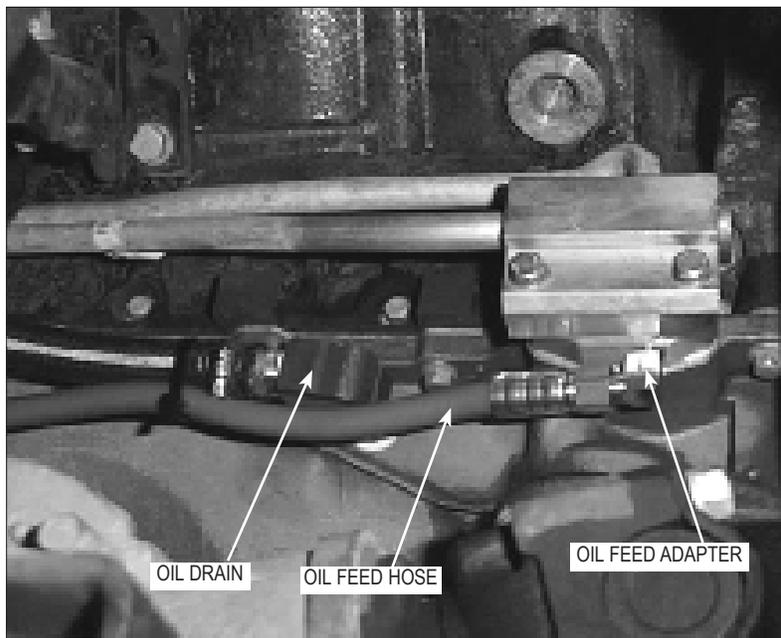

Fig. 6-a
- A. To provide an oil drain for the supercharger, it is necessary to make a hole in the oil pan. Locate and centerpunch the hole per Fig. 6-a. Drill a 1/8" pilot hole at center location.
- E. Route the oil drain hose from the supercharger to the barb fitting, attach and tighten the hose clamp. (See Fig. 6-a.)
- C. Locate the supplied gasket that matches the factory gasket that was removed. Using the adapter, the appropriate supplied gasket and the supplied longer 6mm screws, assemble the components as shown in *Fig. 6-a*).
- E. Route the oil feed line from the supercharger to the installed fitting. Use an adel clamp on the side of the oil pan and tie wraps to secure the oil feed and oil drain lines and protect them from kinking, abrasion and high heat areas. (See *Fig. 6-a*.)